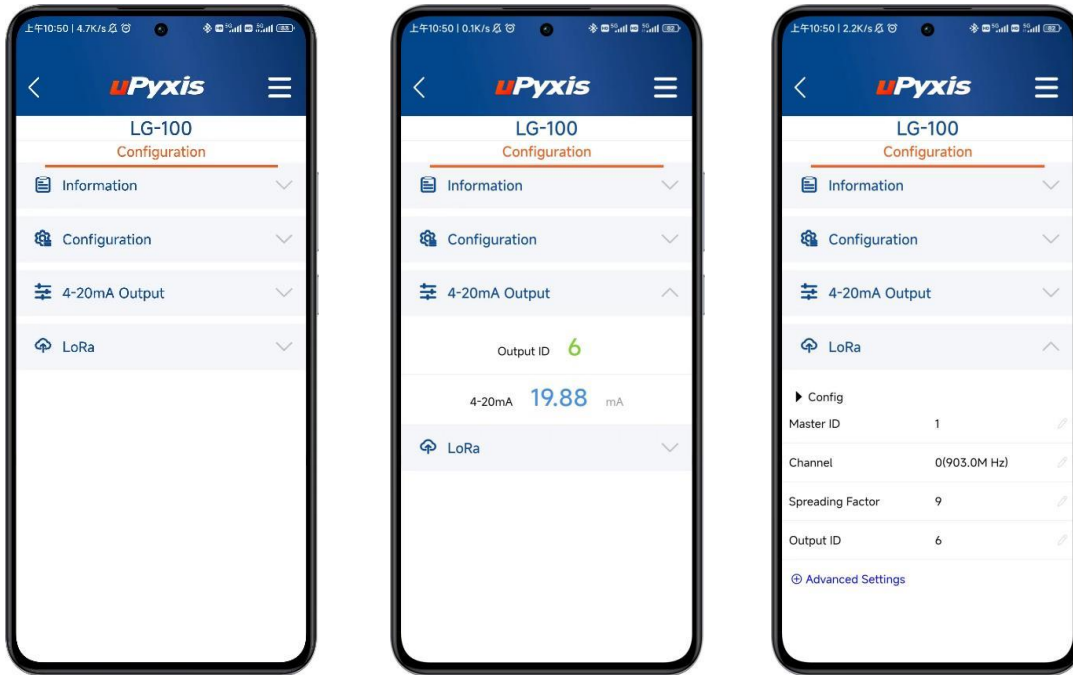

Figure 7. LG-100 Configuration Menu
- Click the **"LoRa"** menu and three additional submenus under LoRa will be displayed: Information, Configuration and Diagnostics, allows displaying/configuring and diagnosis of the LoRa communications as shown in Figure 7 on the next page.